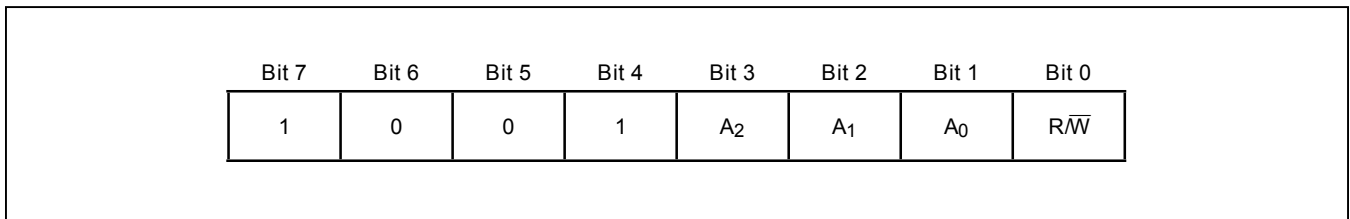

Figure 7. Address Byte
**Address Byte:** The control byte is transmitted by the master and consists of the 7-bit slave address plus a read/write (R/W) bit (see Figure 7). If the master is going